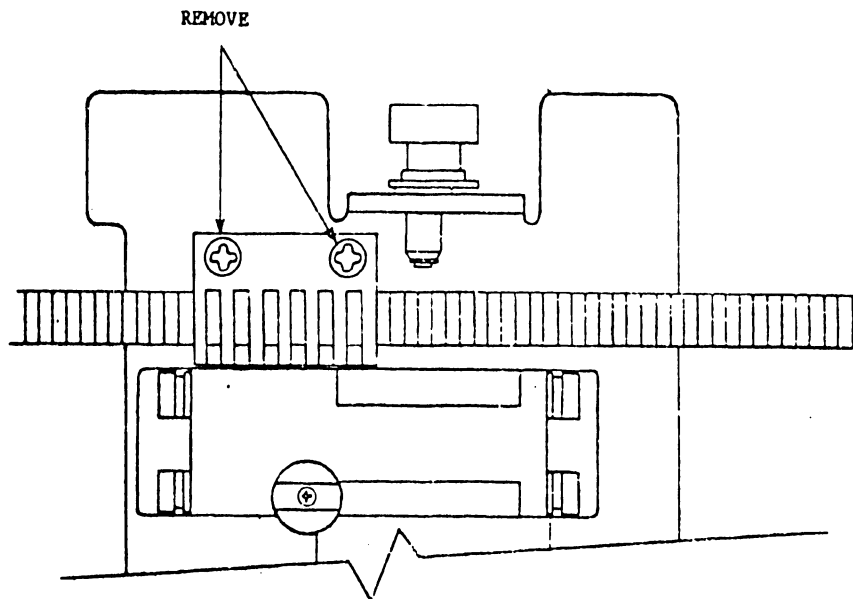

FIGURE 5-7 MAIN DRIVE BELT REMOVAL
- 2) Turn carriage assembly upside down, remove two belt holding plate screws and remove belt (Figure 5-7).